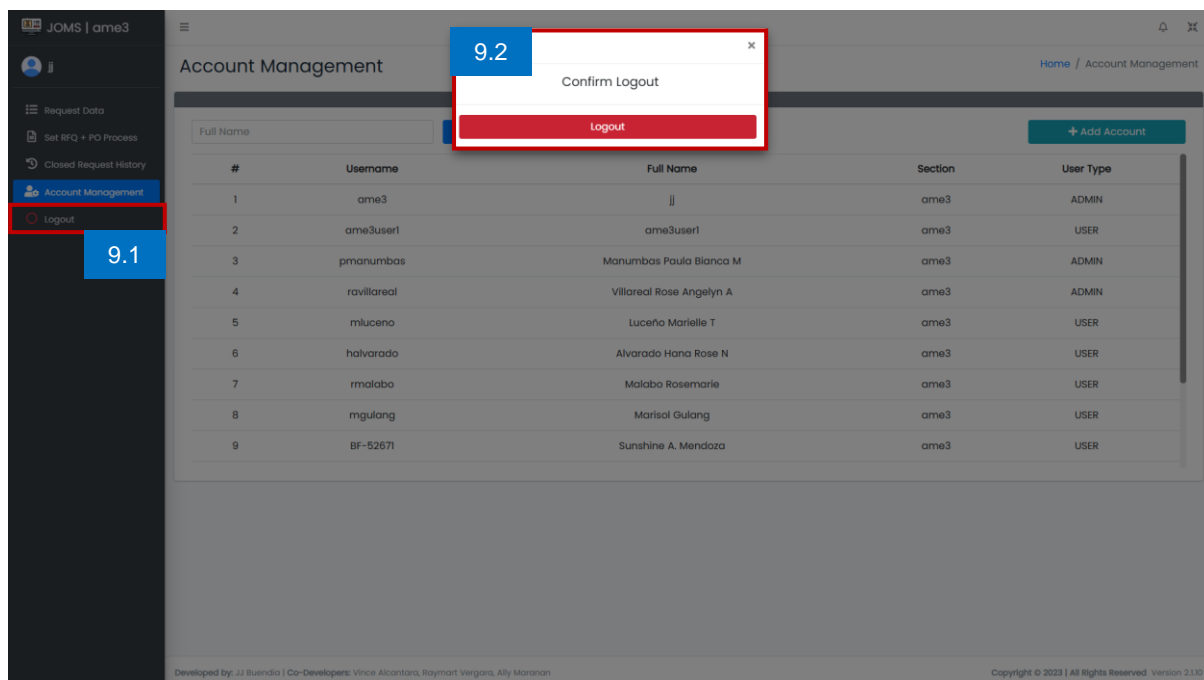

Figure 22. AME3 Logout
9.1 Click Logout. (See Figure 22)
9.2 Shows the message box. Click Logout button. Do not forget to logout when not using the system. (See Figure 22)